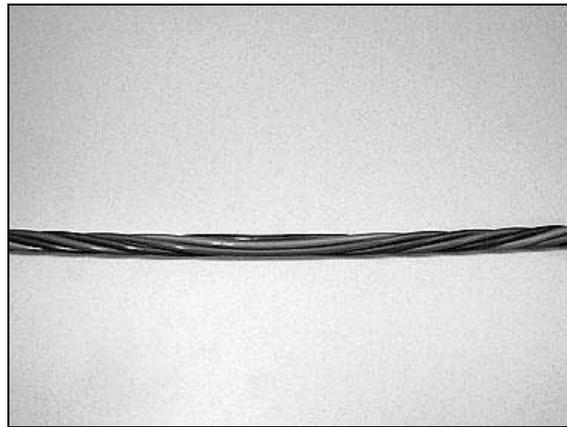

Figure 33 – Locate the buffer tube reversal point.
6.16 Locate the reversal point of the buffer tubes (Figure 33). The reversal point is the location where the twist of the buffer tubes changes direction. If the reversal point cannot be seen, use the ripcords to expose an additional 12-inch length of the cable core. Repeat this process on alternating sides of the jacket opening until the reversal point is located.